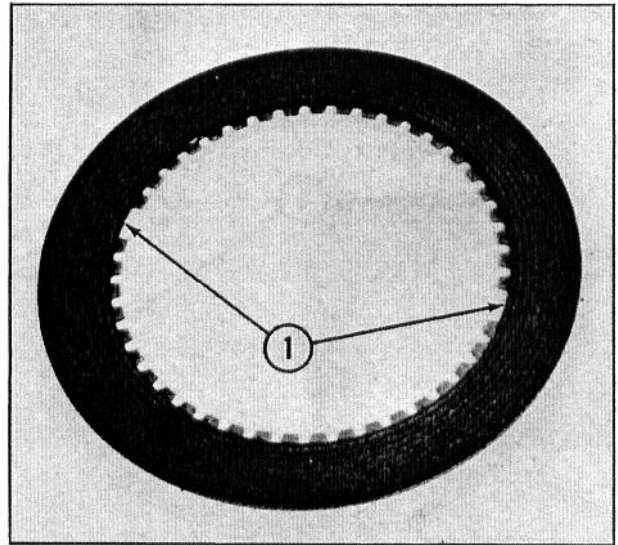

Fig. 49 - Clutch Disc
8. Closely examine the clutch discs. Notice that there are two "cut-out" portions in the internal splines of each disc. See Fig. 49.